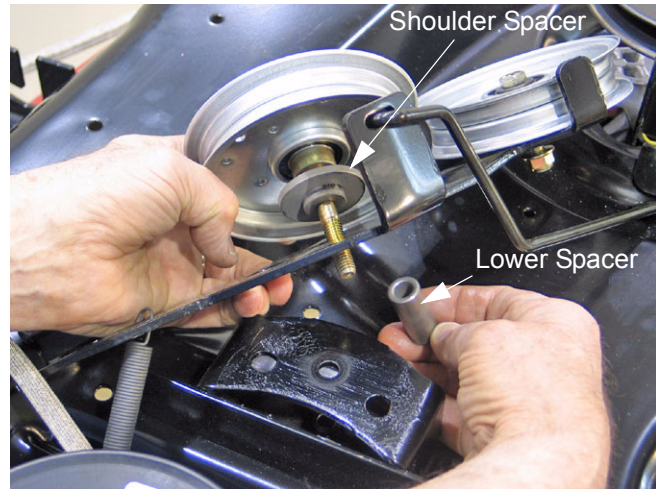

Figure 11
- 3.5. Using a 9/16" socket and a 9/16" wrench, remove the bolt and nut securing the idler bracket to the frame. There is a shoulder spacer under the idler bracket. Remove the idler bracket. Inspect the idler bracket for wear or damage. Inspect the brake puck at the end of the idler bracket for wear or damage. The brake puck is riveted to the idler bracket. See Figure 11.